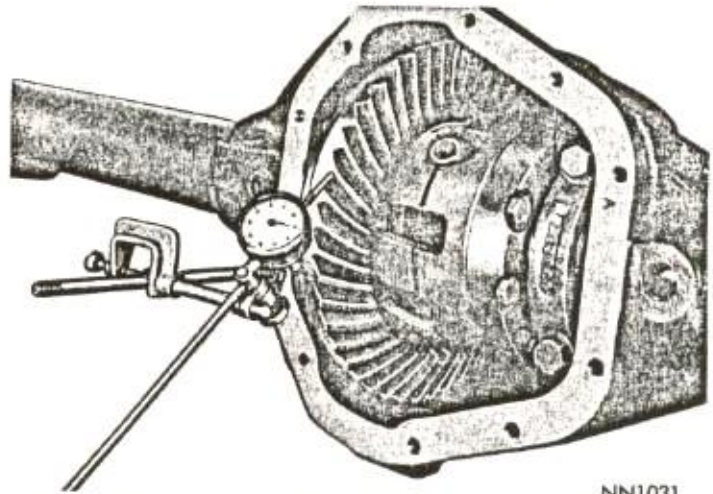

Fig. 18—Checking Backlash Between Drive Gear and Pinion
(8) Attach a dial indicator to carrier and with indicator contact point contacting ring gear tooth (Fig. 18) measure the backlash between the ring gear and drive pinion.
(9) Check backlash at four equally spaced points around circumference of ring gear. Backlash must be held between .004-.009 inch and cannot vary more than .002 inch between the four positions checked.